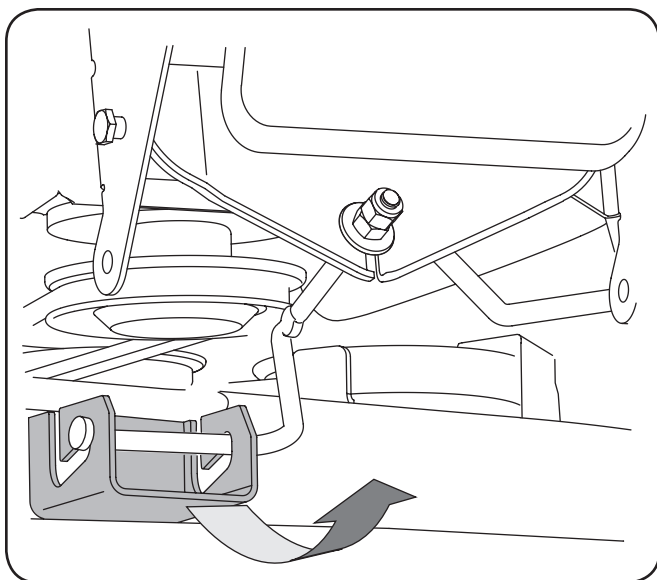

Figure 7-4
9. Gently slide the cutting deck toward the front of the tractor, carefully guiding the hooks on the deck off of the deck stabilizer rod. See Fig. 7-4 on the next page.